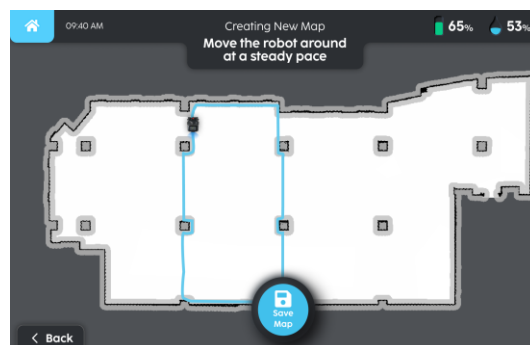

FIGURE 5-15
2. Manually move the robot along the perimeter (Fig. 5-15).